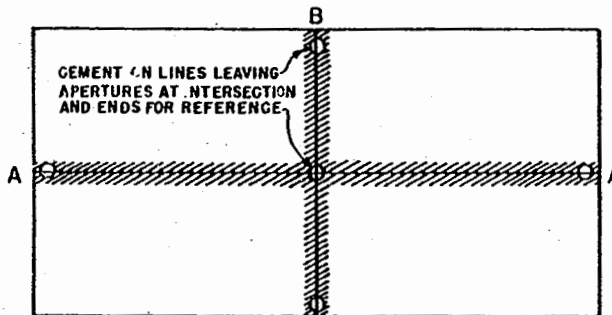
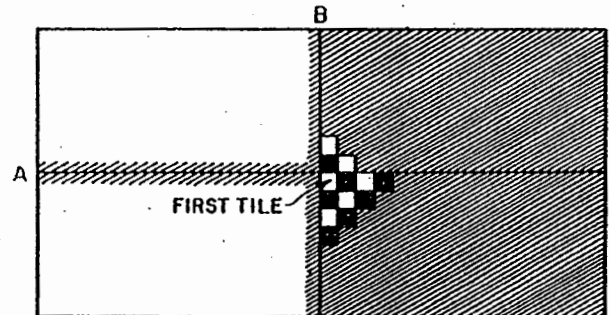
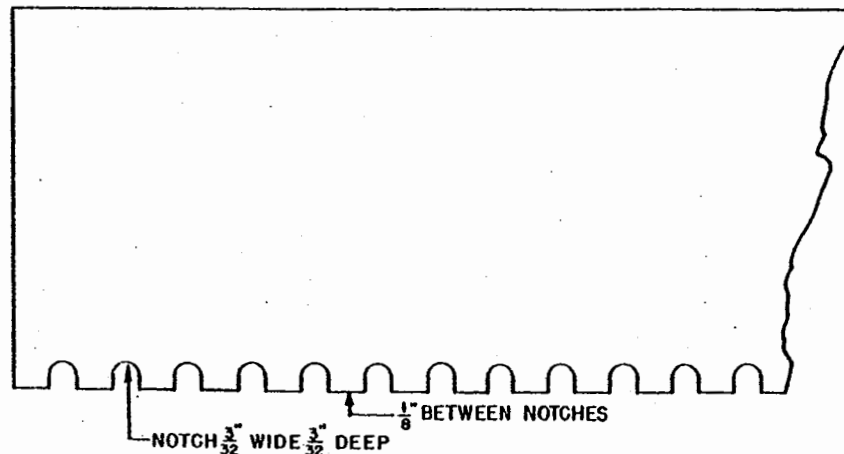

FIG. 3
FIG. 4
FIG. 5
- 4 - TROWEL NO 1000 FLOOR TILE CEMENT OVER LINES AND ALLOW TO DRY FOR ONE-HALF HOUR. (SEE FIG. 3.) RE-SNAP LINES ON TOP OF ADHESIVE TO BE USED AS WORKING LINES. SPREAD CEMENT OVER ONE HALF OF ROOM (SEE FIG. 4), AND ALLOW ADHESIVE TO DRY UNTIL IT BECOMES TACKY. APPLY ADHESIVE WITH NOTCHED SPREADER (FIG. 5). BEAR DOWN HARD SO THAT ONLY THE ADHESIVE Oozing THROUGH NOTCHES REMAINS ON FLOOR. DO NOT USE STRAIGHT-EDGED TROWEL.
- 6 - START LAYING TILE FROM THE CENTER-LINE INTERSECTION (FIG. 4) AND CONTINUE TO LAY TILE IN A SEMI-CIRCLE, WORKING ON TOP WHEN SUFFICIENT TILE IS LAID.